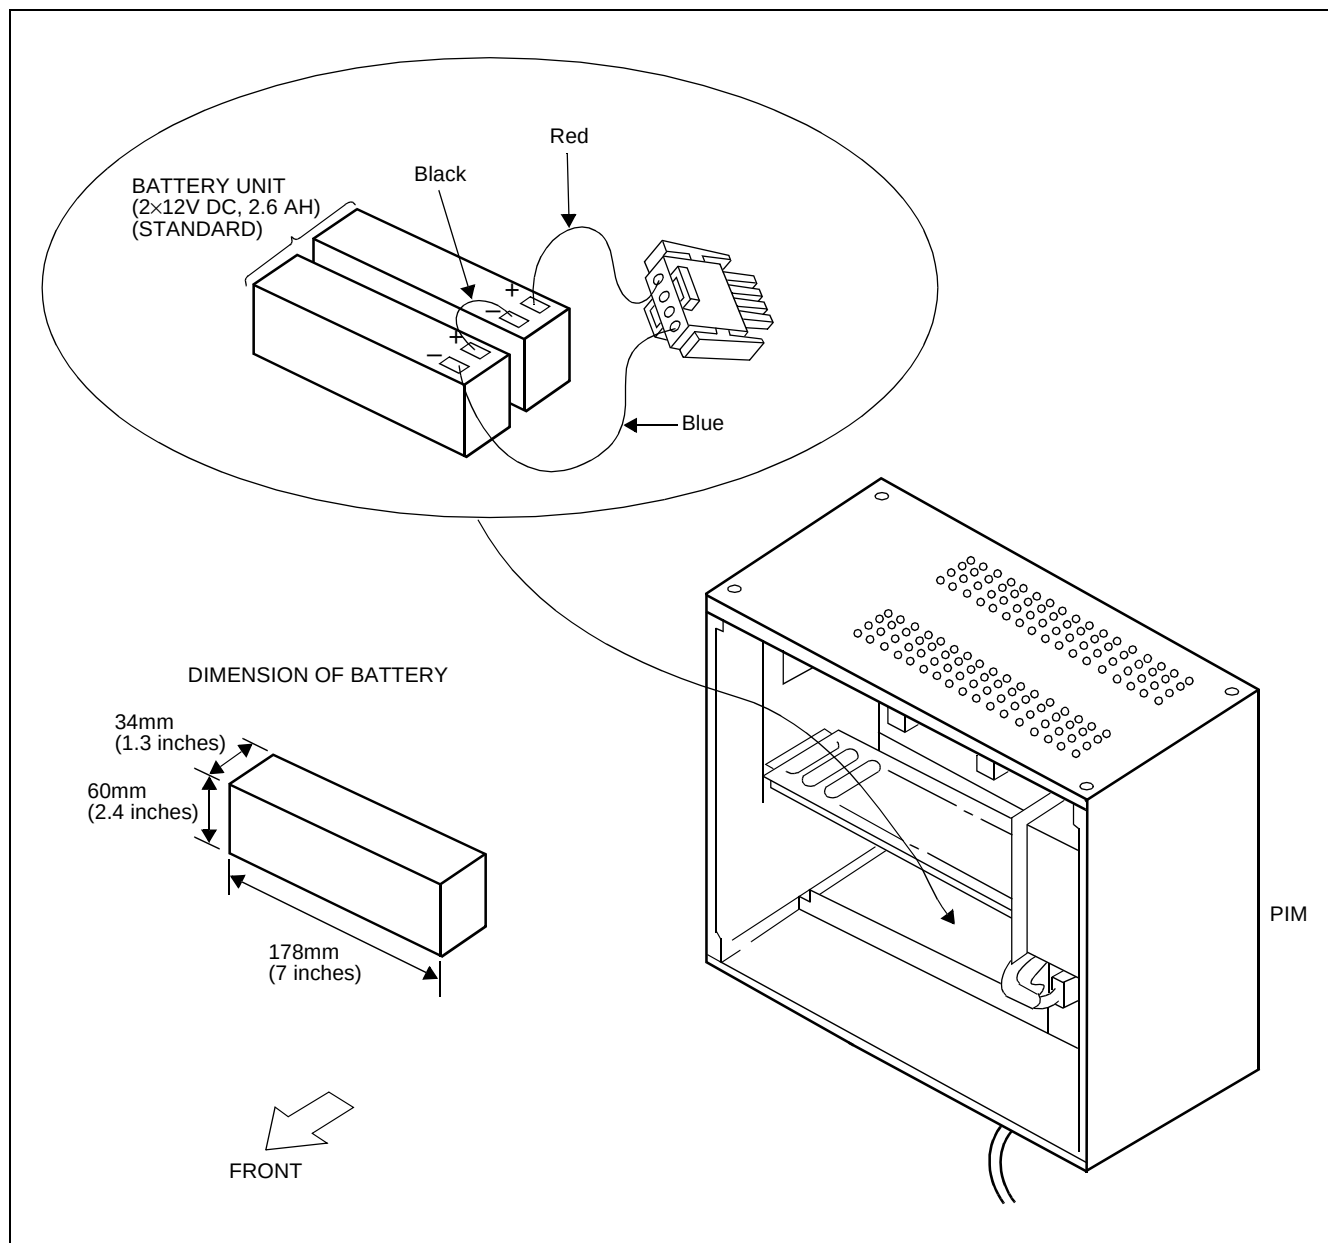

Figure 005-2 Internal Battery Mounting
- (1) Mount the battery unit (24V DC, 2.6 AH) into the PIM (standard with system) as shown in Figure 005-2.